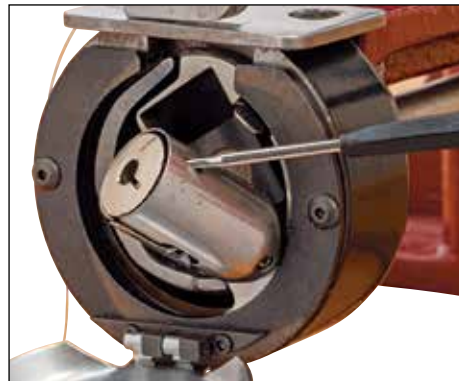

Figure 14
- 3) Lift base of bobbin case out to remove bobbin. **(Figure 14)**